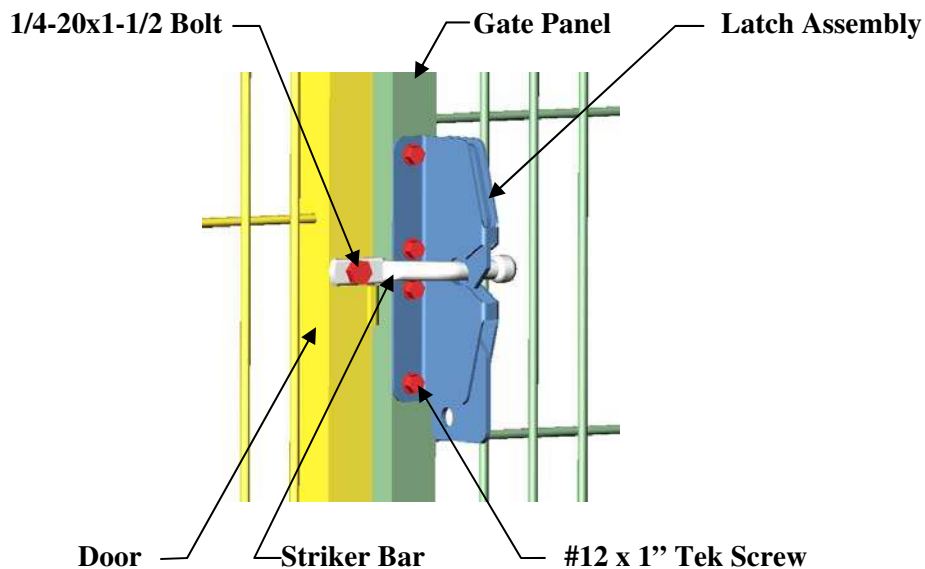

Figure 8
1. Install the **Striker Bar** to the pre-drilled **Door** using a **1/4"-20 x 1-1/2 Hex Bolt** and **1/4"-20 Nylock Nut** (**Figure 8**). Position the **Striker Bar** into a horizontal position.
2. Hold the **Latch Assembly** in place against the **Gate Panel** and close the **Door**. Make sure to center the **Striker Bar** within the latch pocket and latch looks straight. Using (4) **1" Tek Screws**, attach the **Latch Assembly** to the **Gate Panel** (**Figure 8**).